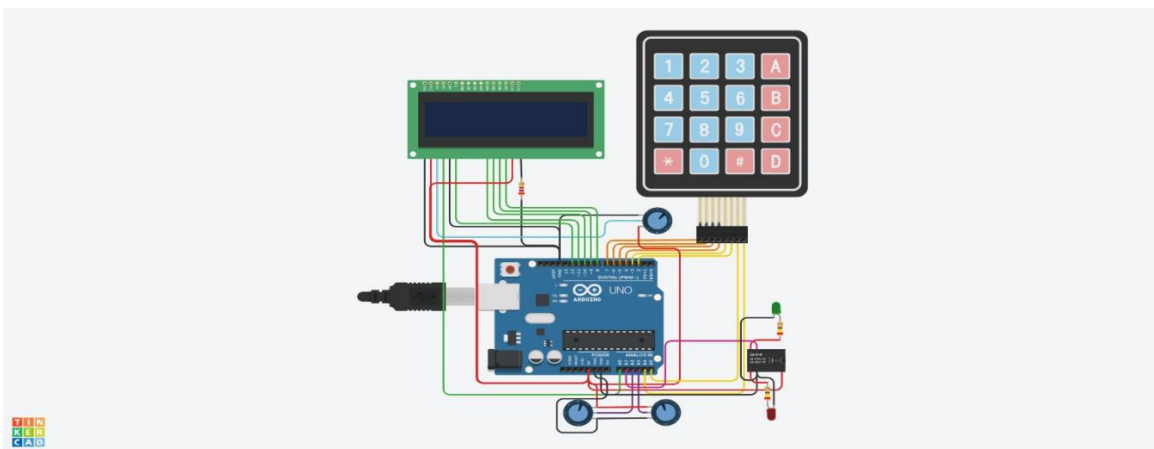
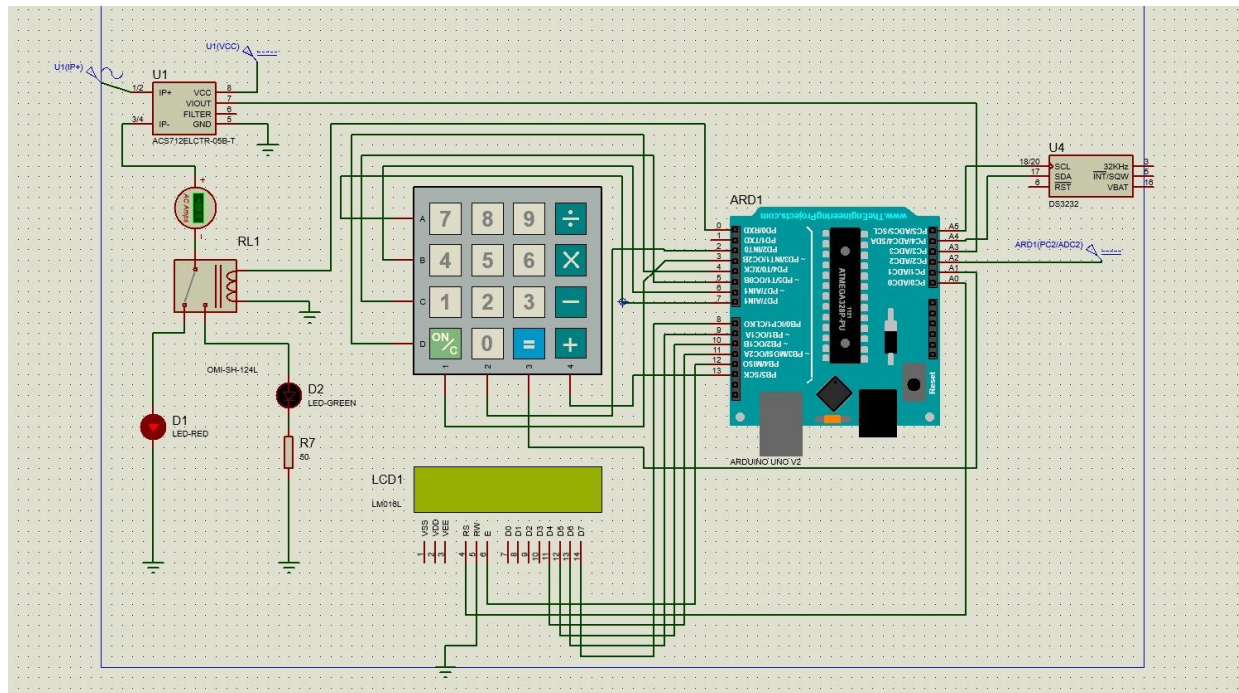

Figure 12: Tinker-CAD Simulation
Figure 13: Proteus Simulation
Figure 12 and Figure 13 represents the simulation of the experiment using TinkerCad and Proteus respectively.
1. Voltage Accuracy: during operation voltage accuracy is fairly high a maximum difference of +5V or -5V compared to a multimeter. As shown in figures 13 and 14.